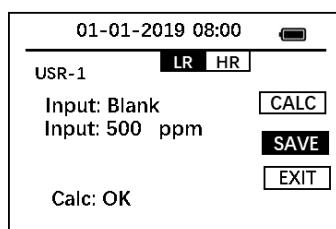

Figure 13.
10. With **SAVE** highlighted, press the **OK** key to save the first calibration range (Figure 13).